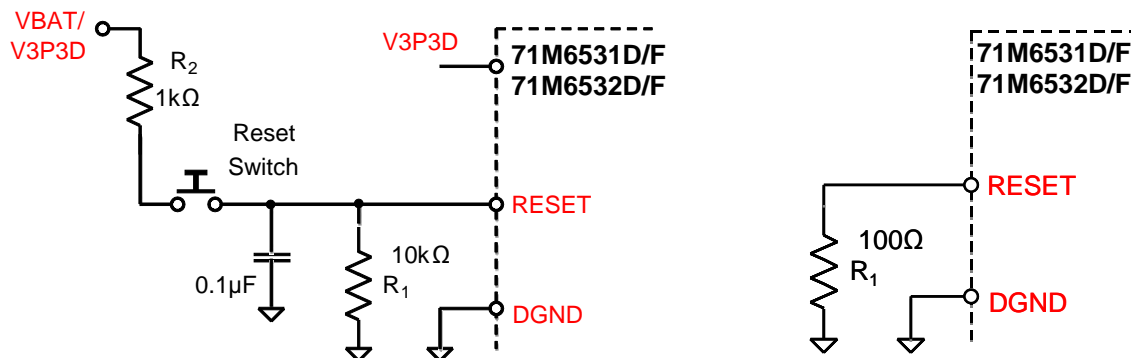

Figure 37: External Components for the RESET Pin: Push-button (Left), Production Circuit (Right)
Even though a functional meter will not necessarily need a reset switch, it is useful to have a reset push-button for prototyping as shown in Figure 37, left side. The RESET signal may be sourced from V3P3SYS (functional in MISSION mode only), V3P3D (MISSION and BROWNOUT modes), or VBAT (all modes, if a battery is present), or from a combination of these sources, depending on the application.
For a production meter, the RESET pin should be protected by the external components shown in Figure 37, right side. R1 should be in the range of 100 Ω and mounted as closely as possible to the IC.
- ✓ Since the 71M6531 generates its own power-on reset, a reset button or circuitry, as shown in Figure 37, is only required for test units and prototypes.